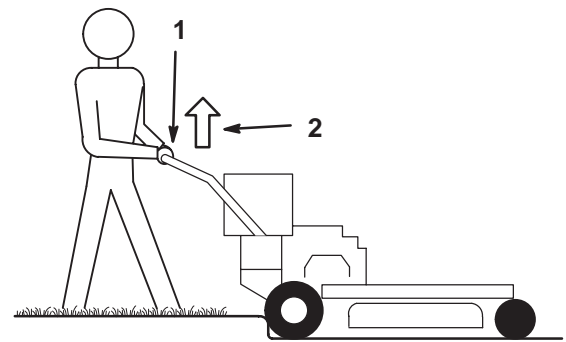

Figure 17
- Drive machine until drive wheels contact curb (Fig. 17).